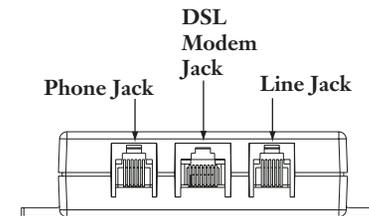

Figure 3 — Insert Preconnected Cords in Input Jacks
Step 1 Insert an RJ-11 preconnected line cord into the phone and line input jacks (Figure 3).